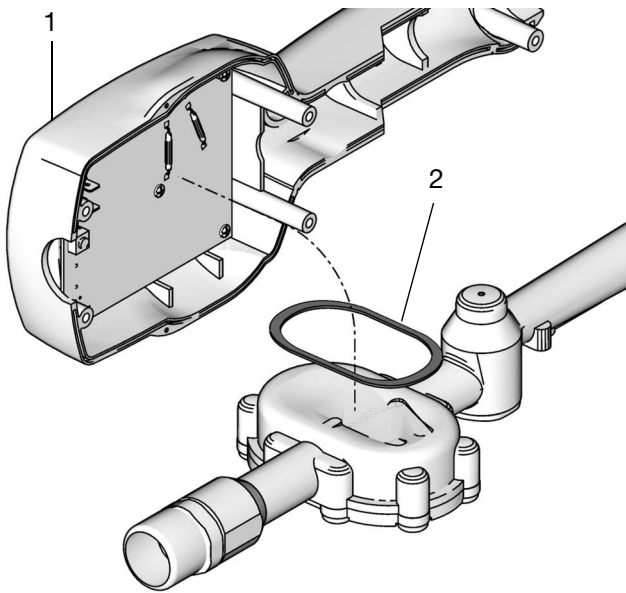

FIG. 4
It is important to properly seat the gasket (2) when installing electronic controls (1) to the fluid section (FIG. 4)